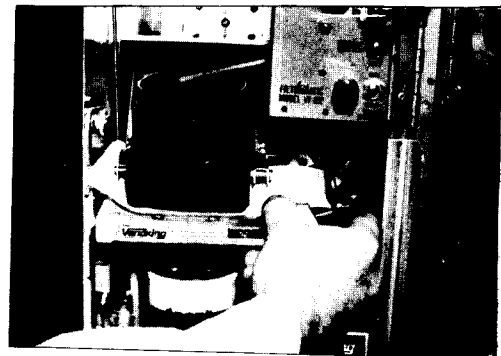

FIGURE 25
- Grasp the brewer firmly and pull it straight out. (FIGURE 25)